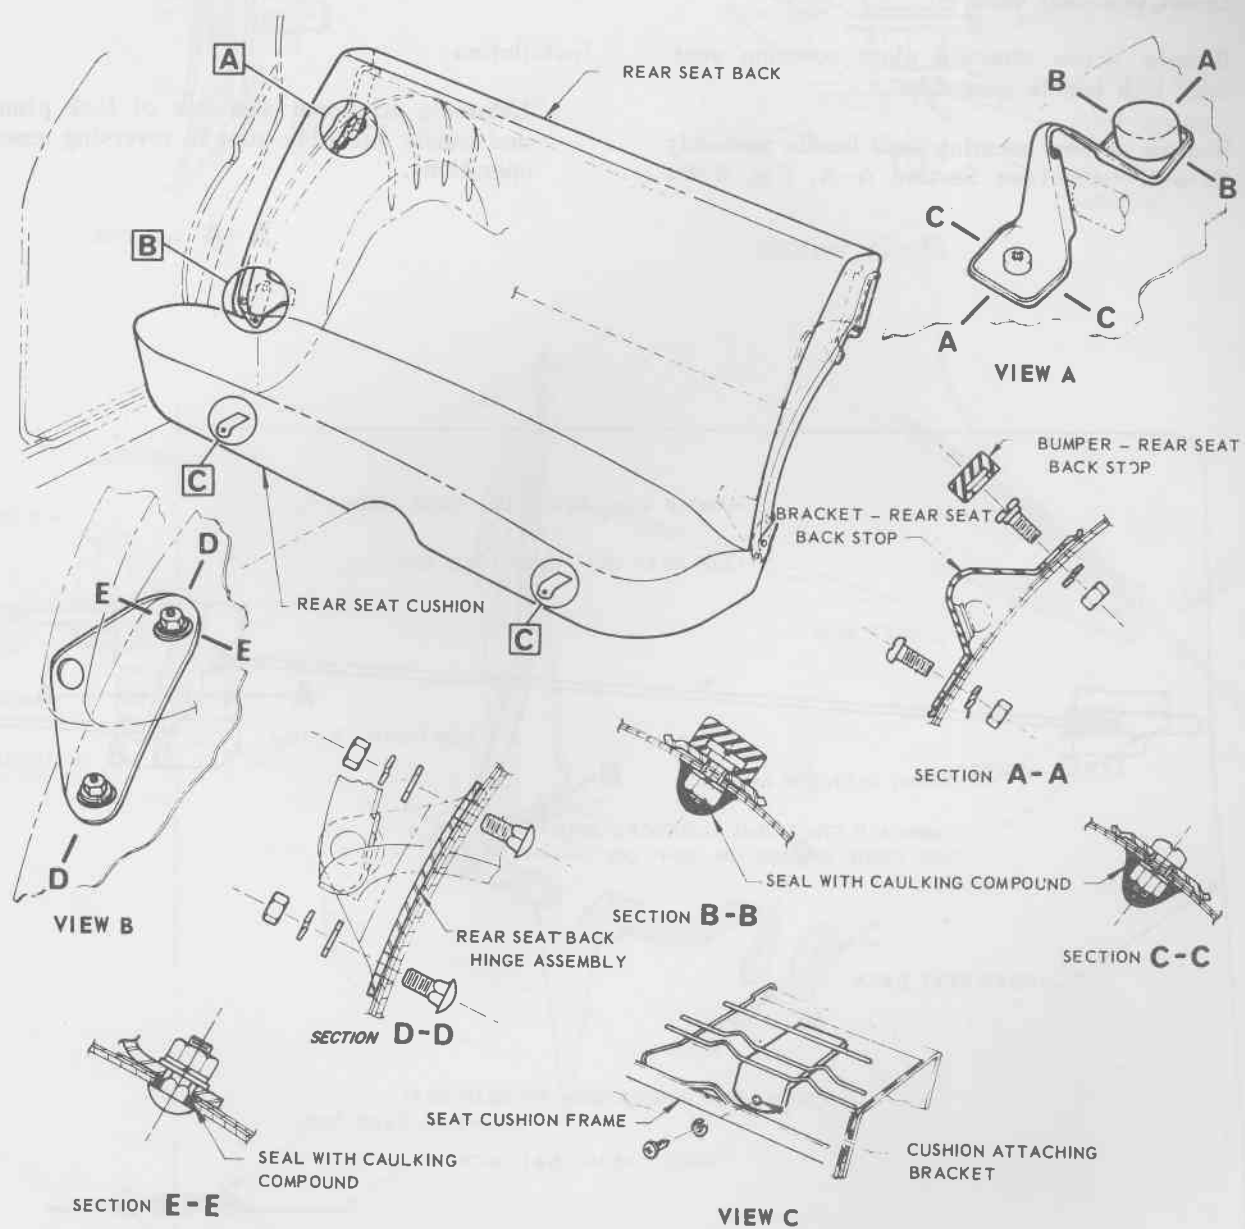

Fig. 8-7
The rear seat back on station sedans is hinged at the rear wheelhouse and is retained in the upright position by remote control plungers engaging in rear seat back stop brackets (see Section A-A, Fig. 8-7).
1. Lower rear seat back and remove hinge to seat back attaching bolts (see View B, Fig. 8-7).
3. Remove screws securing seat cushion frame brackets to rear floor crossbar (see View C, Fig. 8-7).
1. Apply caulking compound around seat back hinge attaching holes in wheelhouse (see Section E-E, Fig. 8-7) prior to reversing removal operations.